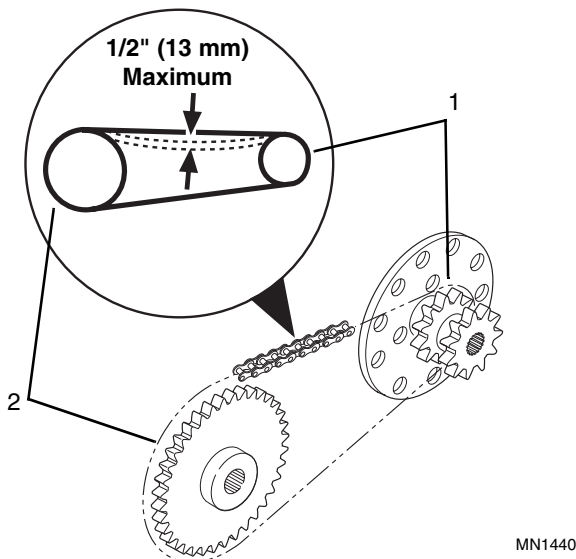

Figure 5-60 Drive Chain Tension
11. To adjust the tension of the front and rear drive chains, turn the chain adjusting screws to push the the axle housings away from the drive sprocket. Tension is checked by noting the chain vertical deflection (up and down movement) at a point midway between the drive sprocket (Fig. 5-60, 1) and axle sprocket (2). This movement should not exceed 1/2" (13 mm). DO NOT overtighten.